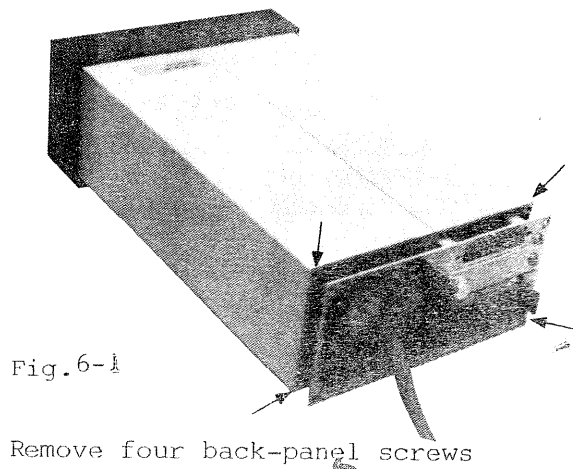

Fig. 6-1
- 2) Remove four Phillips screws securing the rear panel (see Figure 6-1). CAUTION: The PC assemblies contain several MOS devices. High voltage charges induced by static discharge may cause component failure. The instrument should be disassembled on a conductive surface.